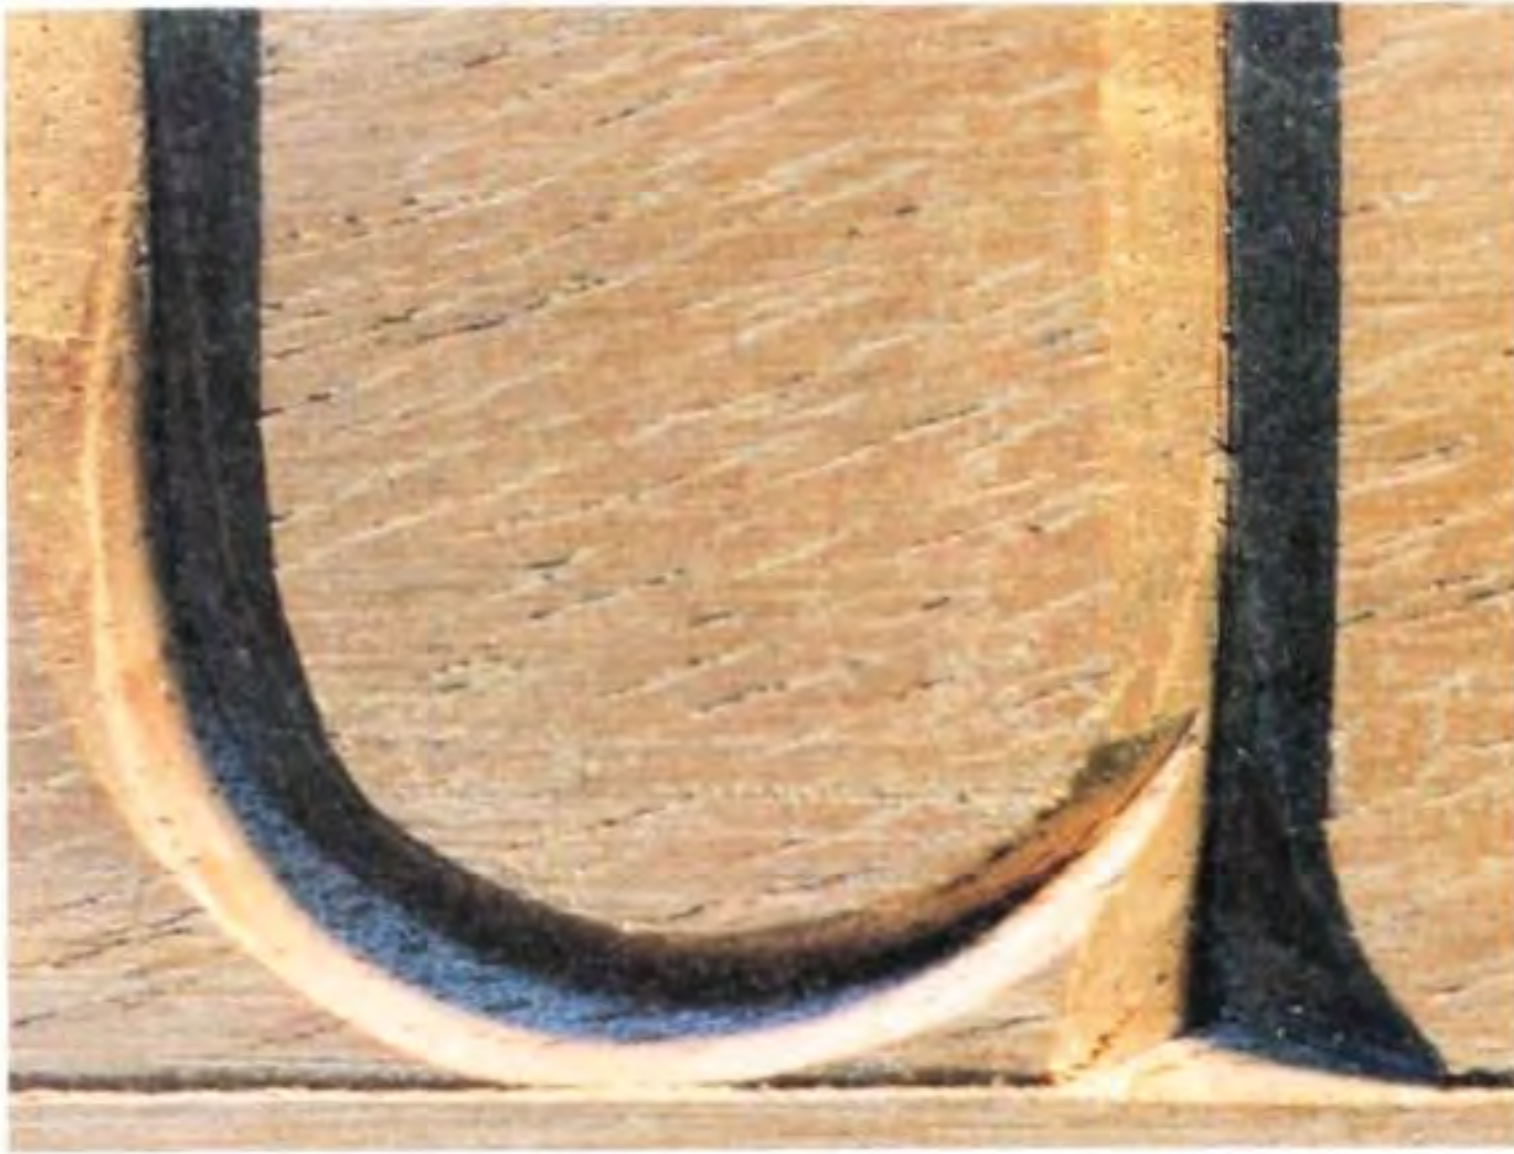

Fig 5.109 U: detail of the junction.
- 3 Bring the curve round to the right hand stem. Be gentle with the stabbing near the junction: this part is very weak, and the little triangle between the bowl and the upright must not be jumped out. Continue the curve as a thin line into the upright, rather than ending at a point (see Fig 5.109).